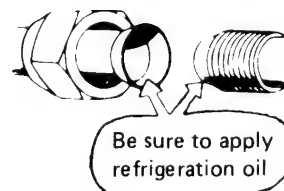

Fig. 25
- Be sure to apply refrigeration oil to the matching surfaces of flare and union before connecting them together. This is effective for reducing gas leaks. Fig. 25